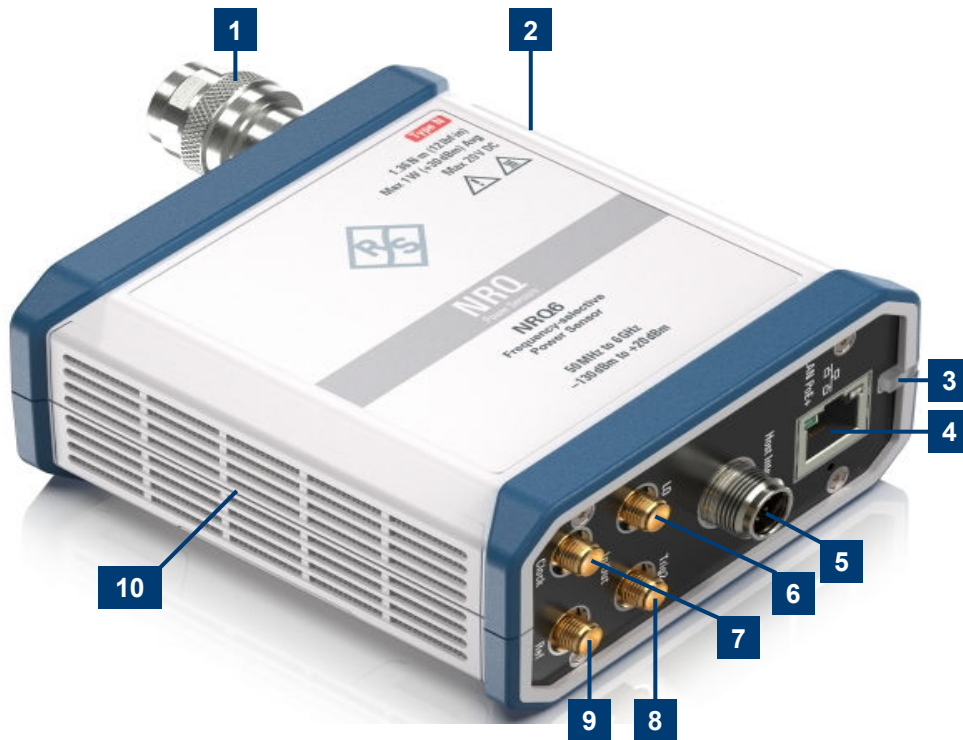

Figure 4-1: NRQ frequency selective power sensor
See (1) in Figure 4-1.
See (2) in Figure 4-1.
See (3) in Figure 4-1.
See (4) in Figure 4-1.
See (5) in Figure 4-1.
See (6) in Figure 4-1.
See (7) in Figure 4-1.
4.8 Local oscillator I/O (LO)
See (8) in Figure 4-1.
See (9, 10) in Figure 4-1.